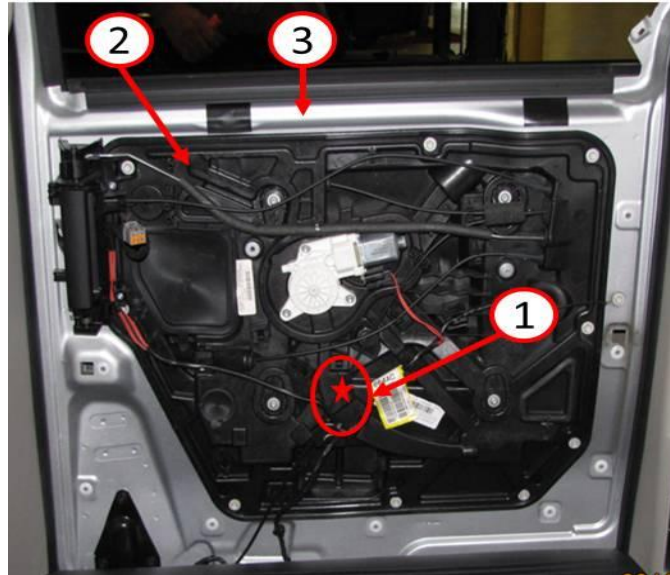

**Fig. 3 Trim Sound Deadener**
4. Cut the sound deadener on the back side of each door panel as shown in (Fig. 3).